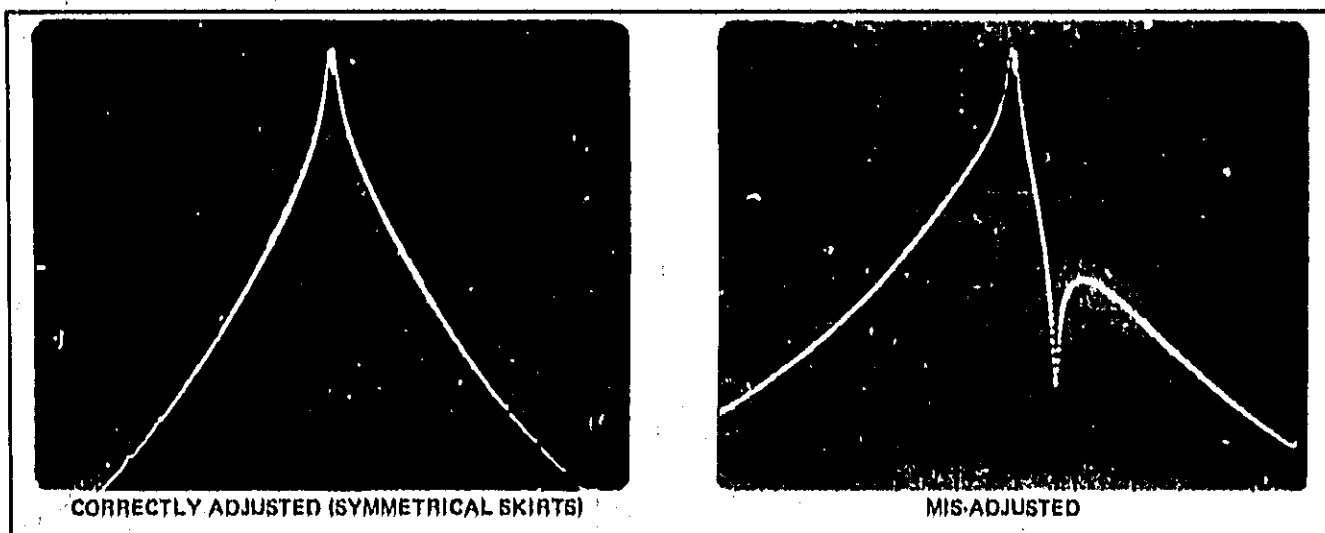

Figure 5-6. Crystal Filter Response: 10 Hz Adjustment.
s. Adjust the 10 Hz ADJ on the Crystal Filter board under test for symmetrical skirts (see Figure 5-6).